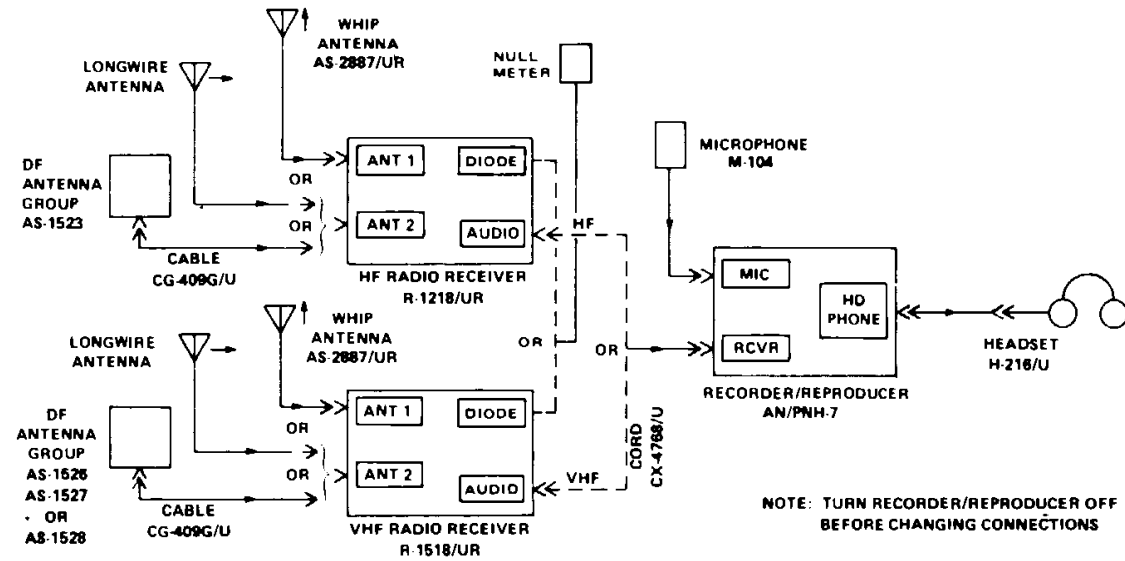

Figure 2-12. Connections of Radio Receiving Set AN/TRL30(V4)
c. HF/VHF Radio Receiving Set AN/TRQ30(V4). Connect the equipment as shown in figure 2-12. Only one receiver is used at a time. For df operation, only the appropriate df antenna should be set up. The headset may be connected to the recorder/reproducer through the extender cord.